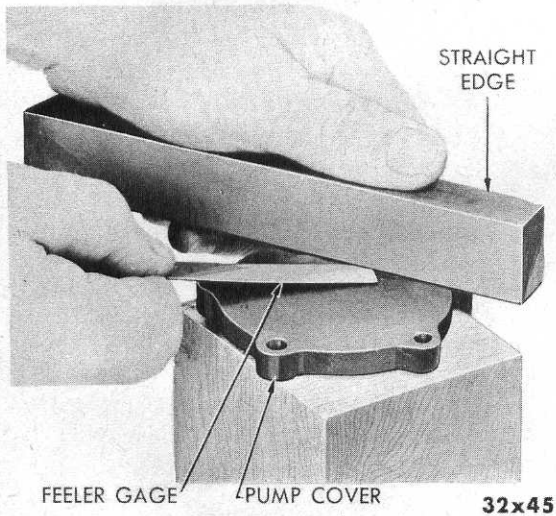

Fig. 68—Checking Body Cover
- (12) The cover should be smooth. If the cover is scratched or grooved, replace it. Lay a straightedge across inner surface, as shown in Figure 68, and try to insert a .001 inch feeler between cover and straightedge. If it can be inserted, replace the cover.